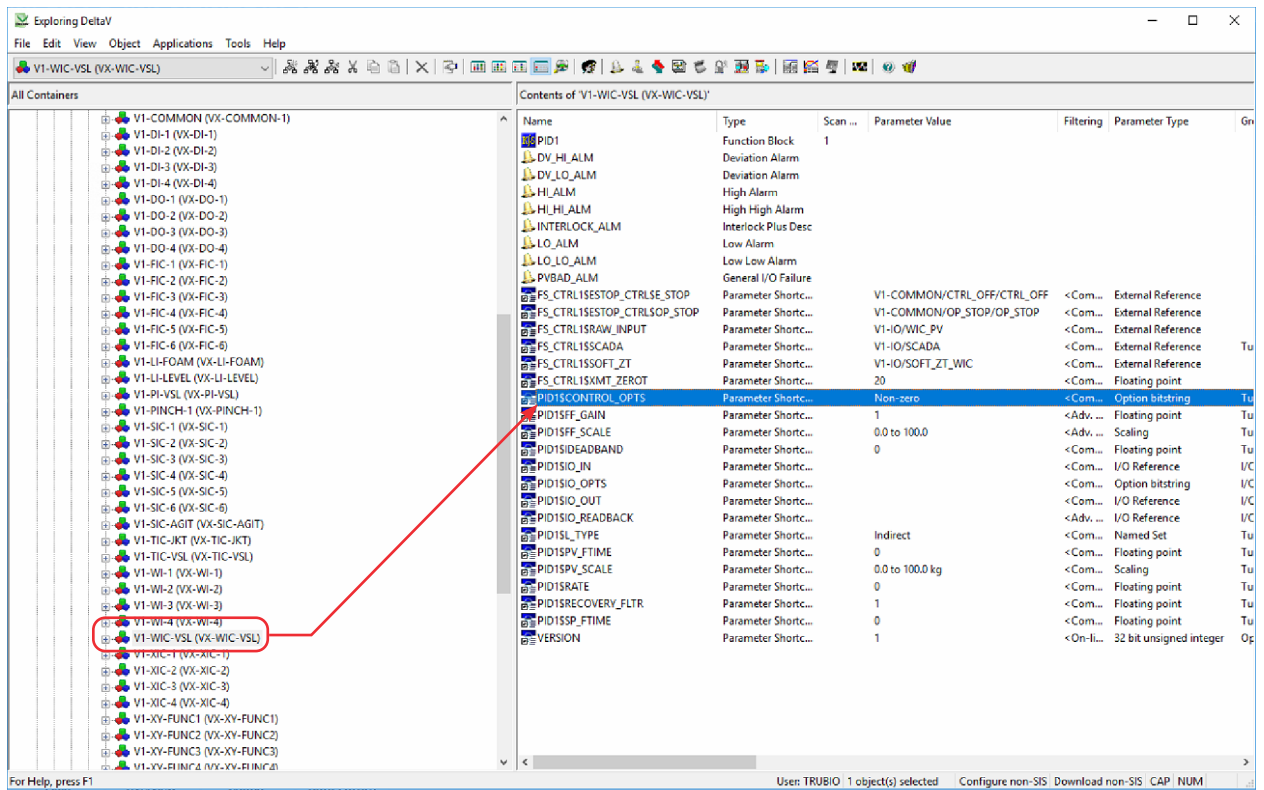

Figure B.2. File path for PID1\$CONTROL_OPTS string.
2. Open the **Equipment** mode. Then locate the module **Vx-WIC-VSL** in the left column (Figure B.2). Follow the path: **Area_Vx > Vx > Vx EM > Vx-WIC-VSL** where x is the vessel number.
3. Double-click **PID1\$CONTROL_OPTS** in the right column (Figure B.2).